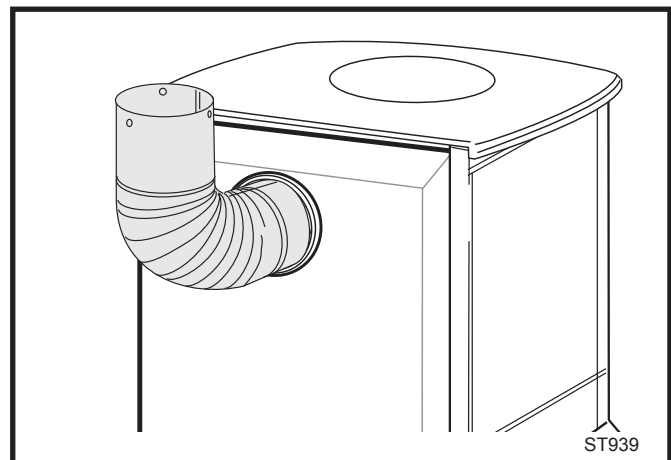

Fig. 22 Fasten outer pipe with #12 x 1/2" sheet metal screws.
5. Install the first elbow and secure using three sheet metal screws. Insert the elbow over the stove flue collar. Also, be sure to align holes on the pipe with the holes on the flue collar of the firebox. Fasten the pipe to the holes in the flue collar with the #12 x 1/2" sheet metal screws provided. (Fig. 22)